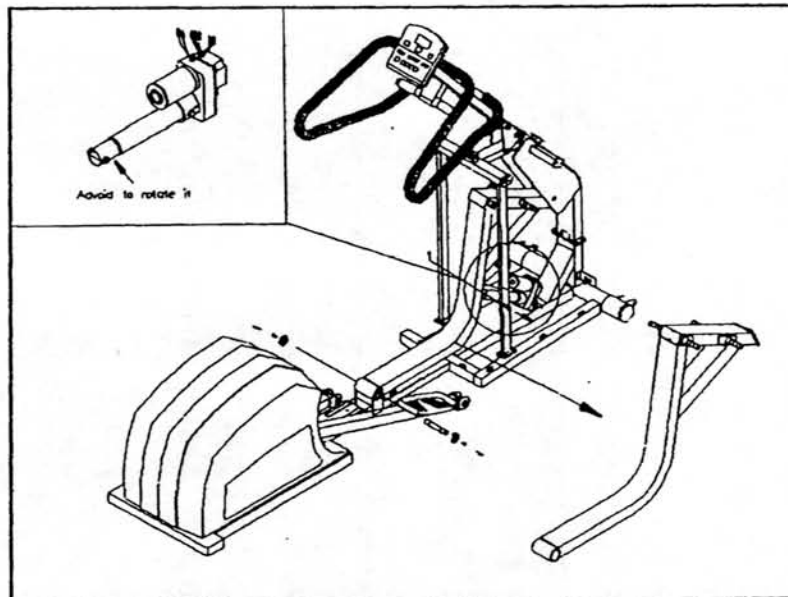

Fig.21-4
5. Remove the HOLD DOWN NUTS out from both side of ELEVATION FRAME and then take the BUSHINGS off. Finally, take apart the ELEVATION FRAME (see fig.21-4).